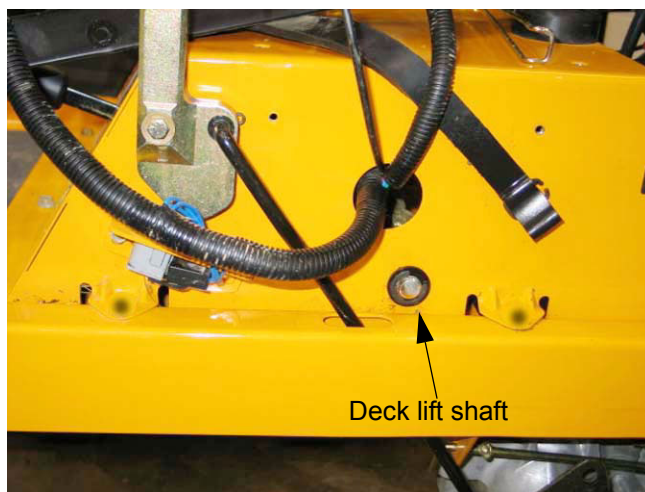

Figure 14.15
14.15. Remove the E-clips on the ends of the deck lift shaft. See Figure 14.15.